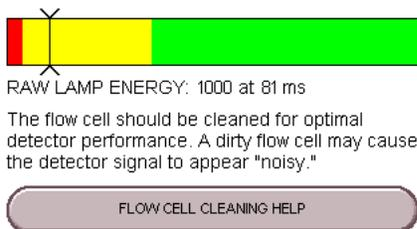

Figure 6-3 Raw Lamp Energy Gauge
2. From the Manual Control window (Figure 6-3), note the Raw Lamp Energy level at 254 nm. The Raw Lamp Energy gauge has three ranges: red, yellow, and green.
If the numerical values of the Raw Lamp Energy (Figure 6-3) do not change, or if the first number remains at zero, contact Teledyne ISCO's Technical Service department.